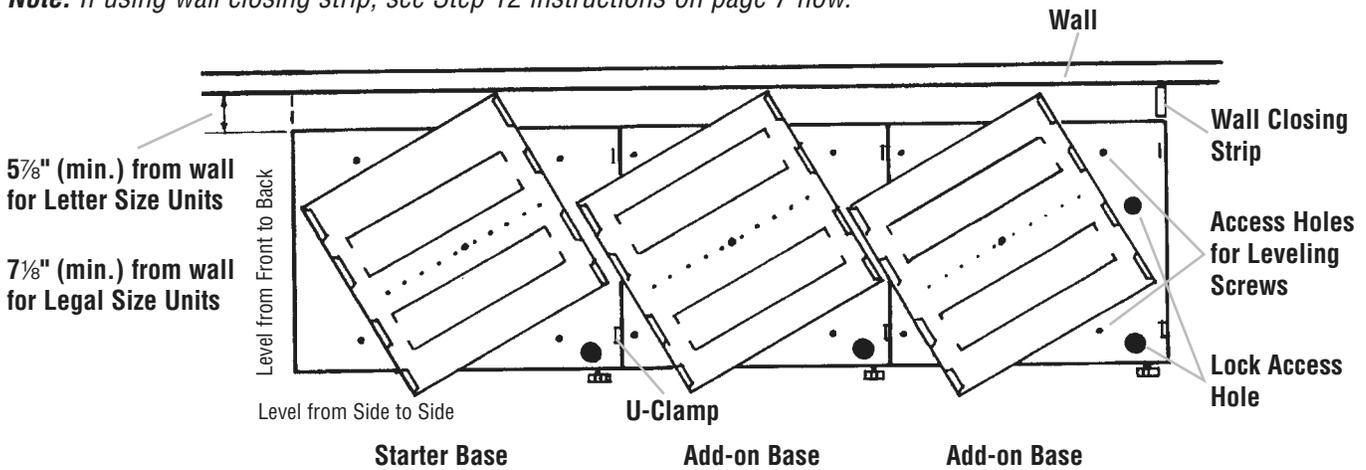

Figure 3 - Base Layout
STEP 2 - BASE LAYOUT (Figure 3)
Position Bases as shown in Figure 3: 5 7/8" (min.) from wall for Letter Size Units, 7 7/8" (min.) from wall for Legal Size Units.
- c. Turn all rotor bottoms in the same direction to expose holes for access to the leveling screws (Figure 3).